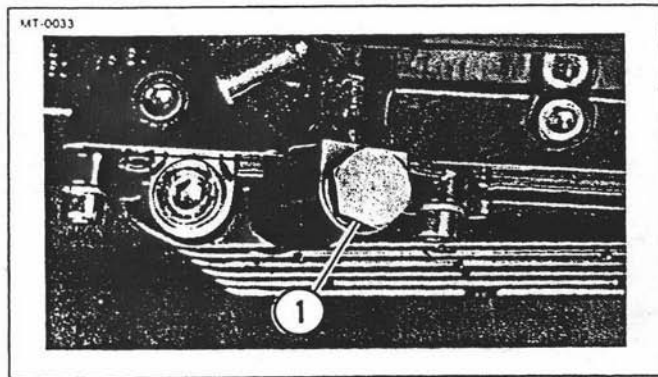

Figure 3-12. Sieve Cover Drain Plug
5. See Figure 3-12. Using a 17 mm box wrench, install drain plug (1) into sieve cover.